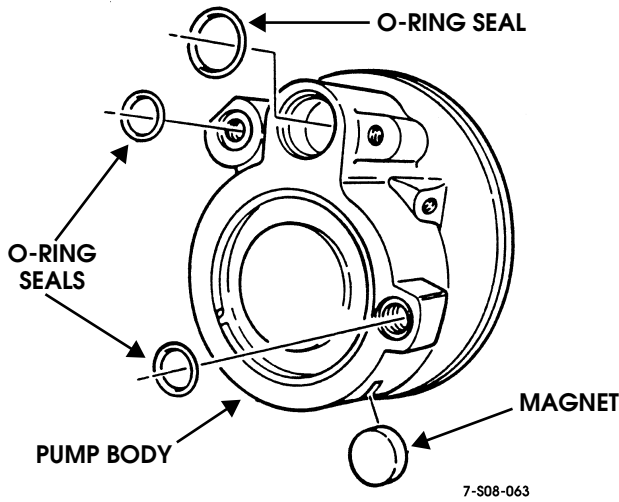

Figure 8-74: "O" Ring Seal Removal
10. Remove three O-ring seals from pump body and discard. (Figure 8-74).